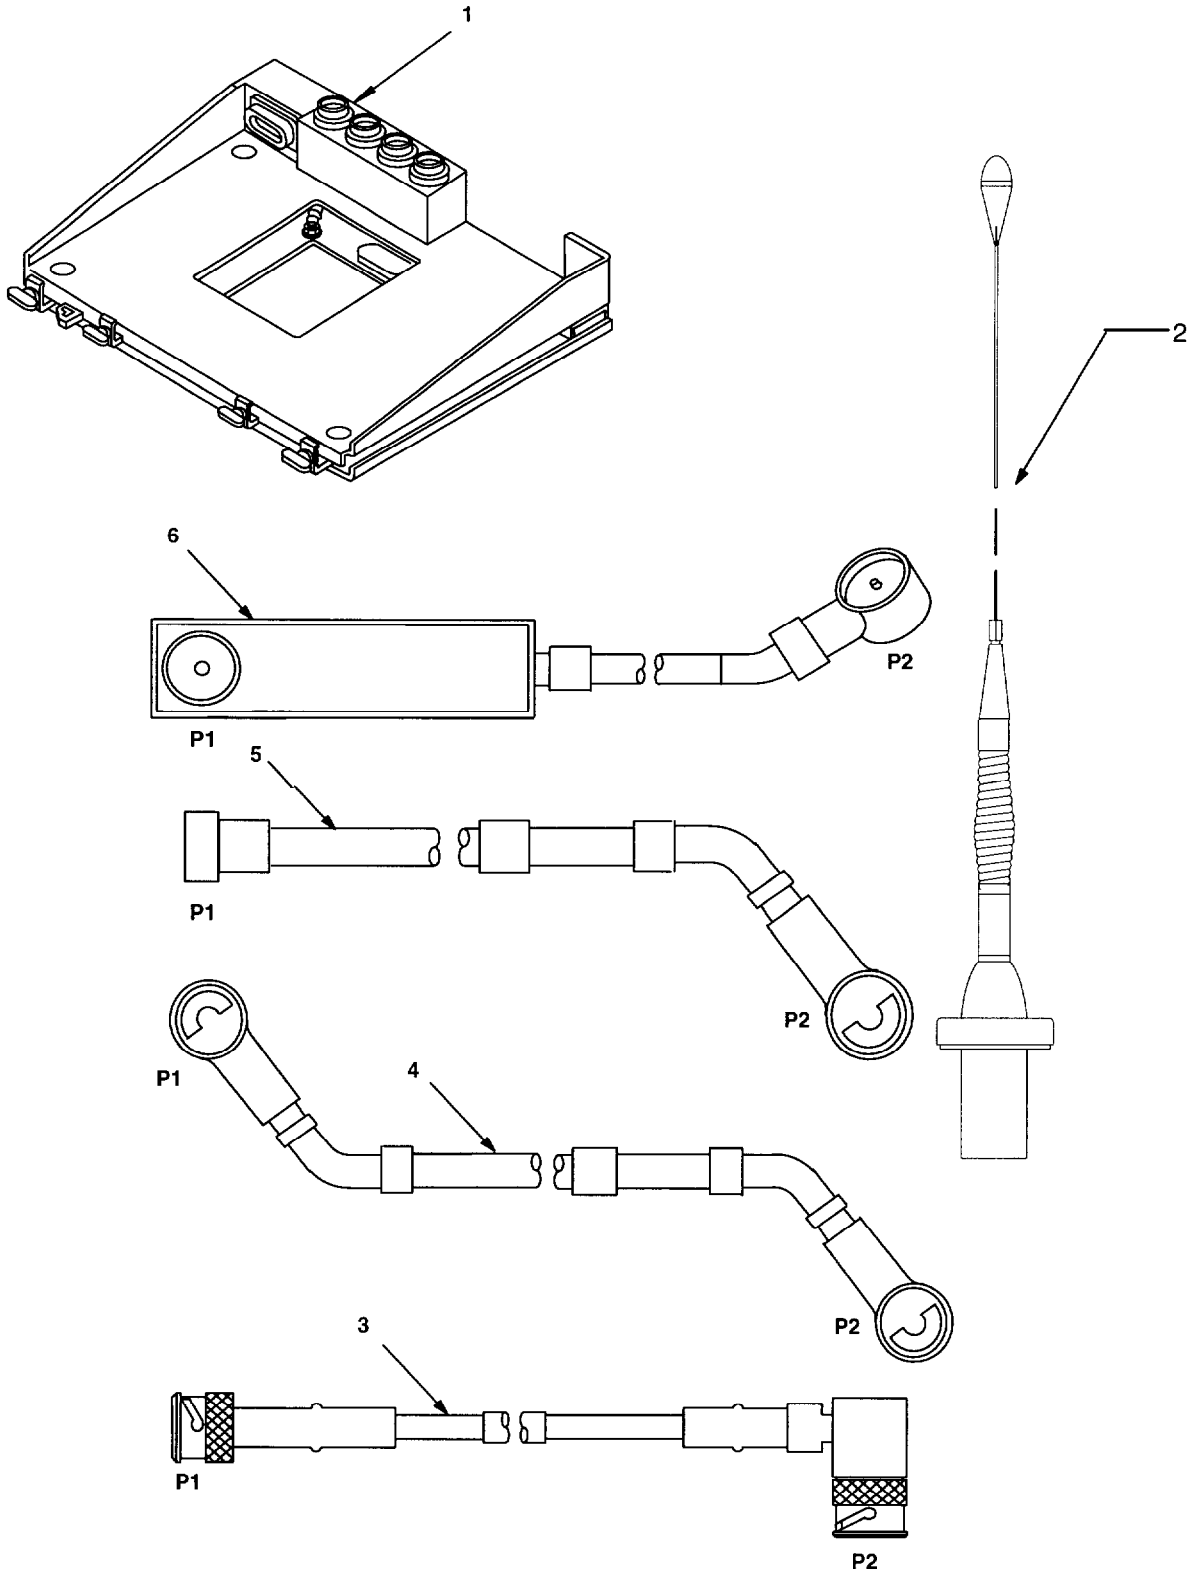

Figure 4-1. MK Illustrated Parts List
4.3.1 Items Supplied in MK and/or Required for Installation. Use Table 4-1 and figure 4-1 to identify and inventory MK parts supplied to install Radio Set AN/VRC-87/88/90 Series.